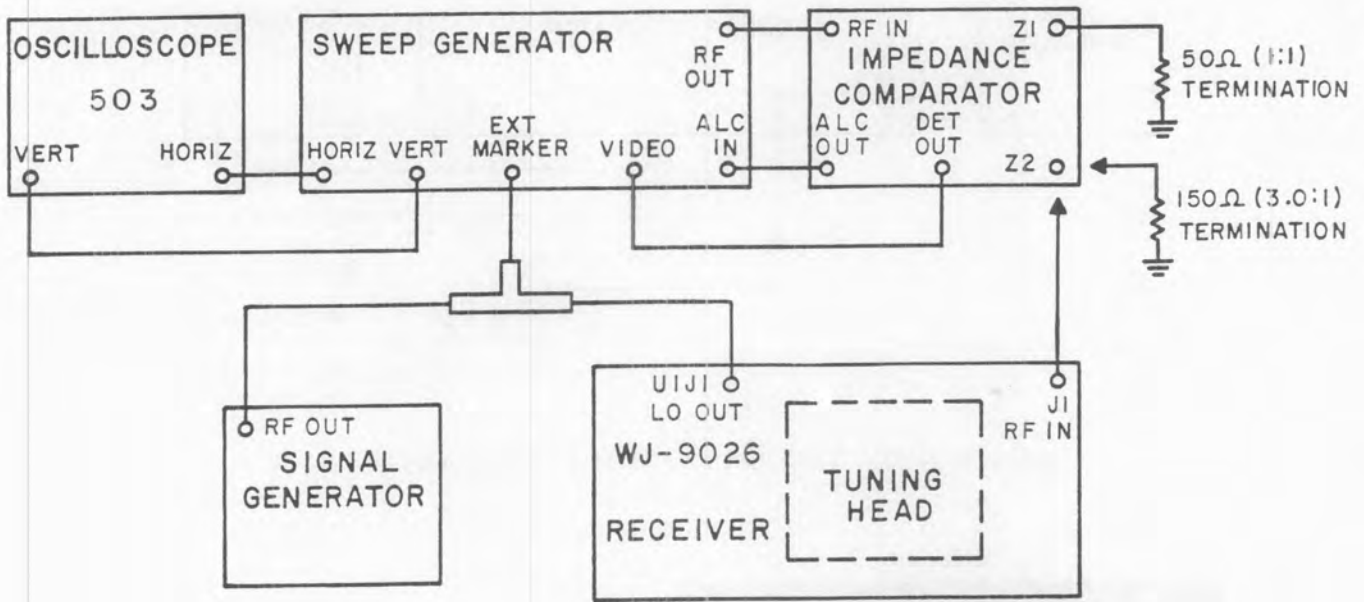

Figure 4-29. Test Setup, VSWR Alignment
- (5) Connect the equipment as shown in Figure 4-29.
- (6) Tune the sweep generator and tuner to 235 MHz and the marker signal generator to 60 MHz. Connect the receiver/tuner input to Z2 of the impedance comparator and adjust the sweep generator and oscilloscope controls for an undistorted sweep response with the marker visible.
- (7) Disconnect the receiver/tuner from Z2 of the impedance comparator and substitute the 150 ohm (3:1 vswr) termination. A new, straight horizontal line should now appear on the oscilloscope screen. Adjust the oscilloscope vertical position control so that the horizontal line coincides with the X-axis. The horizontal reference line represents the 3:1 maximum acceptable input vswr of the tuner. Remove the 150 ohm termination from Z2 of the impedance comparator and re-connect the receiver/tuner input J1.
- (8) Adjust C4 and C7 for a response centered (approximately) around